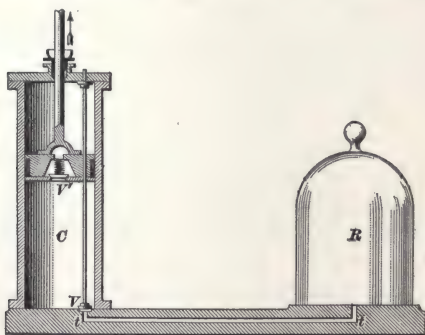
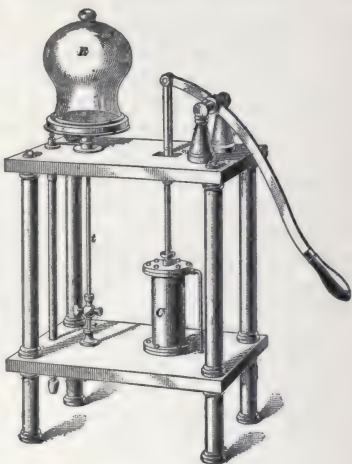

FIG. 19.
FIG. 20.
shown in Fig. 19 and the complete instrument in Fig. 20. The closed vessel *R* is called the **receiver**, and the space
The piston is now pushed down, the valve *V* closes, the valve *V'* opens, and the air in *C* escapes. The lower valve *V* is sometimes supported, as shown in Fig. 19, by a metal rod passing through the piston and fitting it somewhat tightly. When the piston is raised or lowered, this rod moves with it. A button near the upper end of the rod confines its motion within very narrow limits, the piston sliding upon the rod during the greater part of the journey. In the complete form of the instrument shown
in Fig. 20, communication between receiver and pump is made by means of the tube  $t$ .
**61. Degrees and Limits of Exhaustion.**—Suppose that the volume of  $R$  and  $t$  together is four times that of  $C$ , Fig. 19, and that there are, say, 200 grains of air in  $R$  and  $t$ , and 50 grains in  $C$  when the piston is at the top of the cylinder. At the end of the first stroke, when the piston is again at the top, 50 grains of air in the cylinder  $C$  will have been removed, and the 200 grains in  $R$  and  $t$  will occupy the space  $R$ ,  $t$ , and  $C$ . The ratio between the sum of the spaces  $R$  and  $t$  and the total space  $R + t + C$  is  $\frac{4}{5}$ ; hence,  $200 \times \frac{4}{5} = 160$  grains = the weight of air in  $R$  and  $t$  after the first stroke. After the second stroke, the weight of the air in  $R$  and  $t$  would be  $(200 \times \frac{4}{5}) \times \frac{4}{5} = 200 \times (\frac{4}{5})^2 = 200 \times \frac{16}{25} = 128$  grains. At the end of the third stroke, the weight would be  $[200 \times (\frac{4}{5})^2] \times \frac{4}{5} = 200 \times (\frac{4}{5})^3 = 200 \times \frac{64}{125} = 102.4$  grains. At the end of  $n$  strokes the weight would be  $200 \times (\frac{4}{5})^n$ . It is evident that *it is impossible to remove all the air that is contained in  $R$  and  $t$  by this method.* It requires an exceedingly good air pump to reduce the tension of the air in  $R$  to  $\frac{1}{30}$  inch of mercury. When the air has become so rarefied as this, the valve  $V'$  will not lift, and, consequently, no more air can be exhausted.